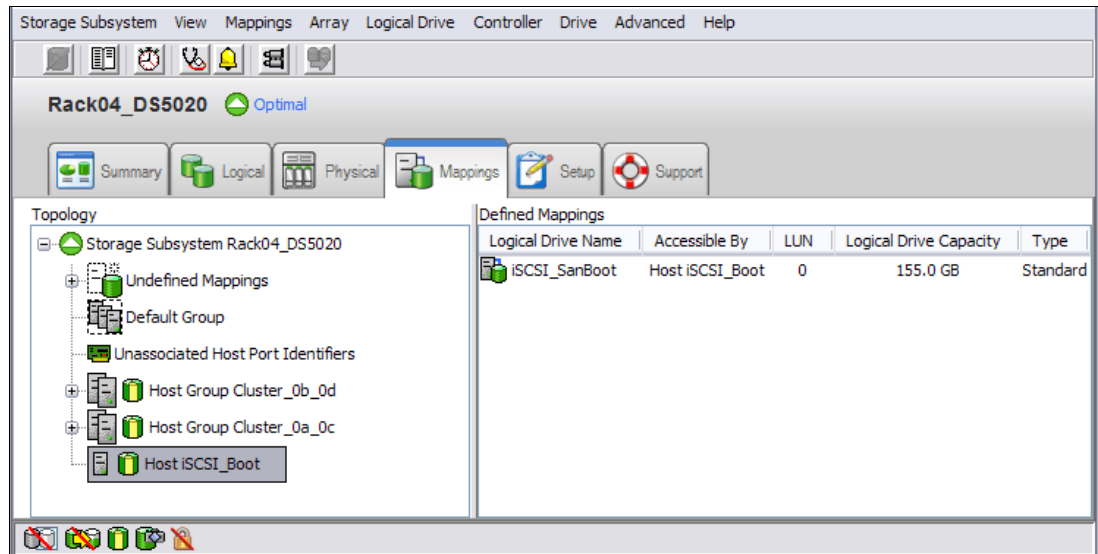

Figure 6-34 Boot LUN mapped to the host
- c. In the Mappings Window, you should be able to see the newly created Boot LUN in the Defined Mappings frame, as shown in Figure 6-34.